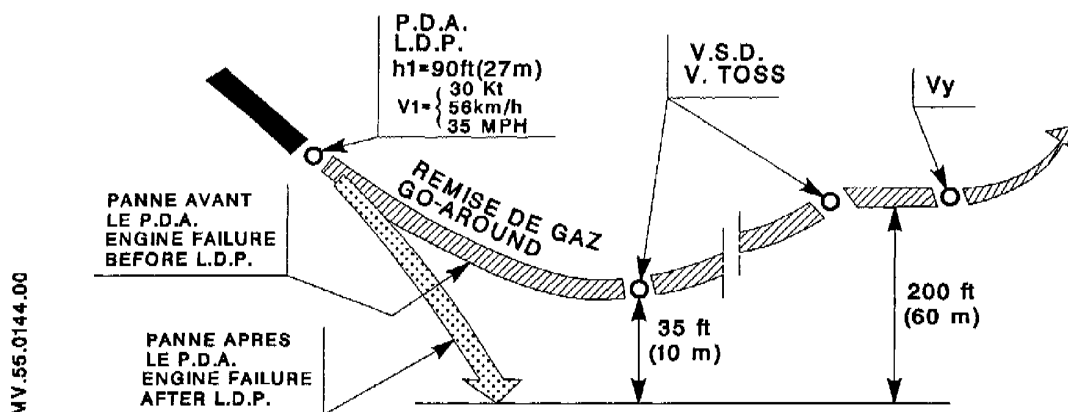

Figure 8
4.2.2 Emergency procedures in the event of an engine failure on landing (Figure 8)